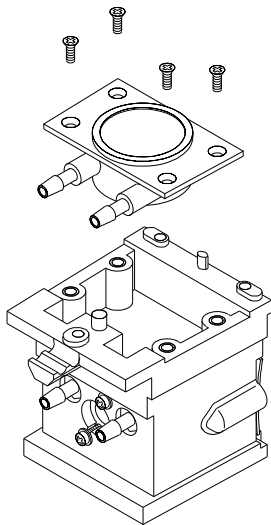

Figure 22 Installing the Cell Stirring Module
- 3 Insert the cell stirring module into the cavity in the base of the thermostatable cell holder, see Figure 22.